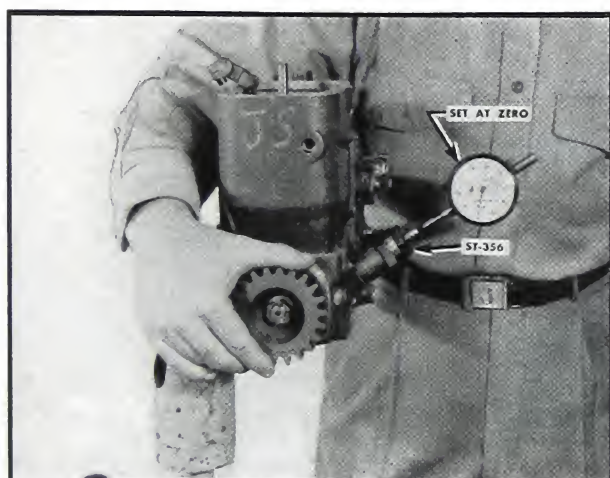

Fig. 5-343. Low point of travel
4. Rotate the camshaft and find the low point of indicator travel. Set the indicator to "O". Make sure distributor drive gear is loose on the taper. Fig. 5-343.